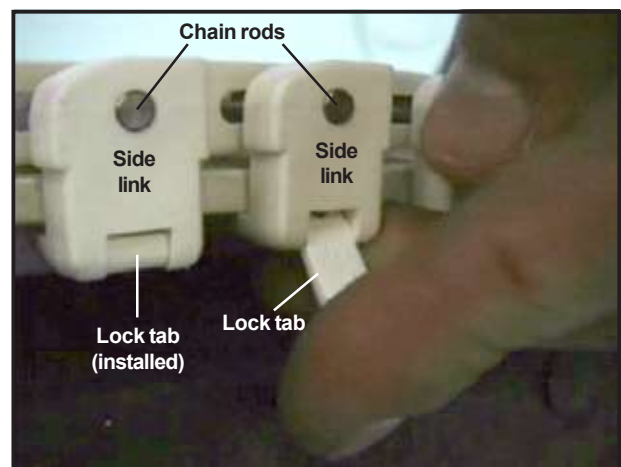

Figure 32: Insert lock tab
- Once the rod is in place, insert the lock tabs into the side links (*Figure 32*). The lock tabs must snap up into the chain link. The lock tabs will slide easily into the cavity of the chain if they are inserted at a slight angle.